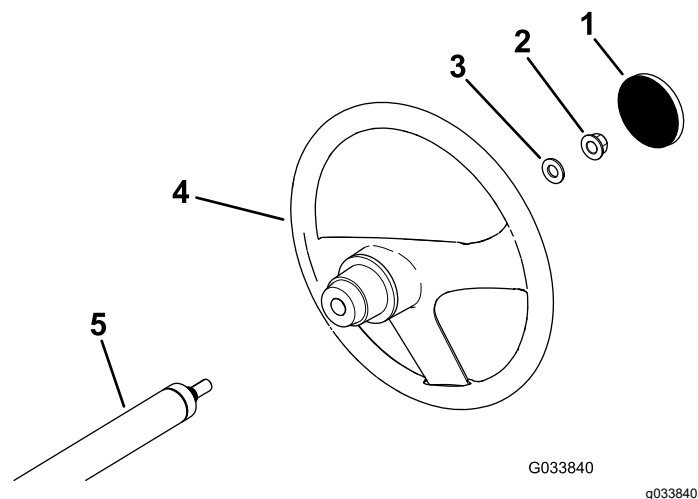

Figure 3
1. If the cover is installed, remove it from the hub of the steering wheel (Figure 3).
2. Remove the locknut (1/2 inch) from the steering shaft (Figure 3).
3. Slide the steering wheel and washer (1/2 inch) onto the steering shaft (Figure 3).
5. Install the cover on the steering wheel (Figure 3).